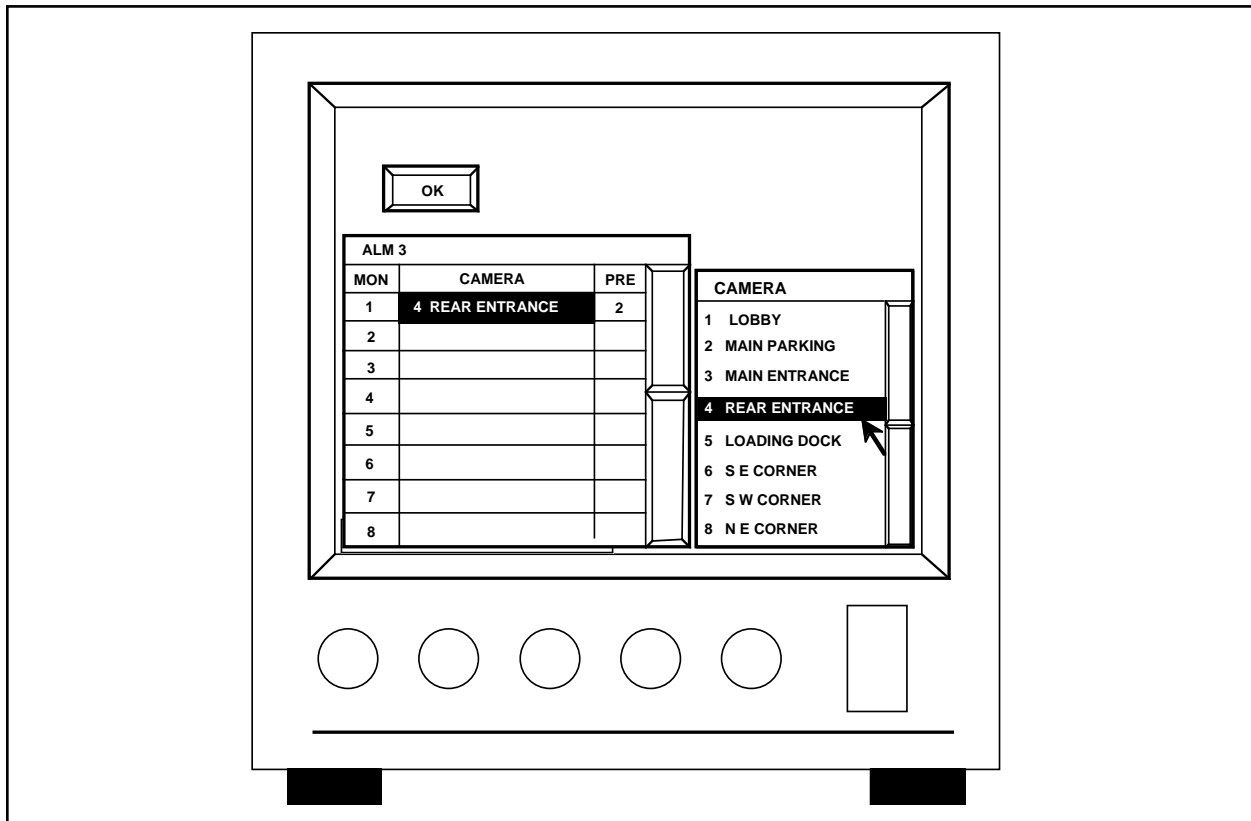

Figure 35. Monitor and Camera Definition Screen
3. Using the joystick, position the cursor to the same alarm number just defined and press the **[point]** button. This will access the Monitor and Camera Definition Table. Refer to Figure 35. Find the desired monitor to be defined and, using the joystick and cursor, highlight the camera column by positioning the cursor in the column and pressing the **[point]** button. Once highlighted, position the cursor to the desired camera and press the **[point]** button to select the camera.